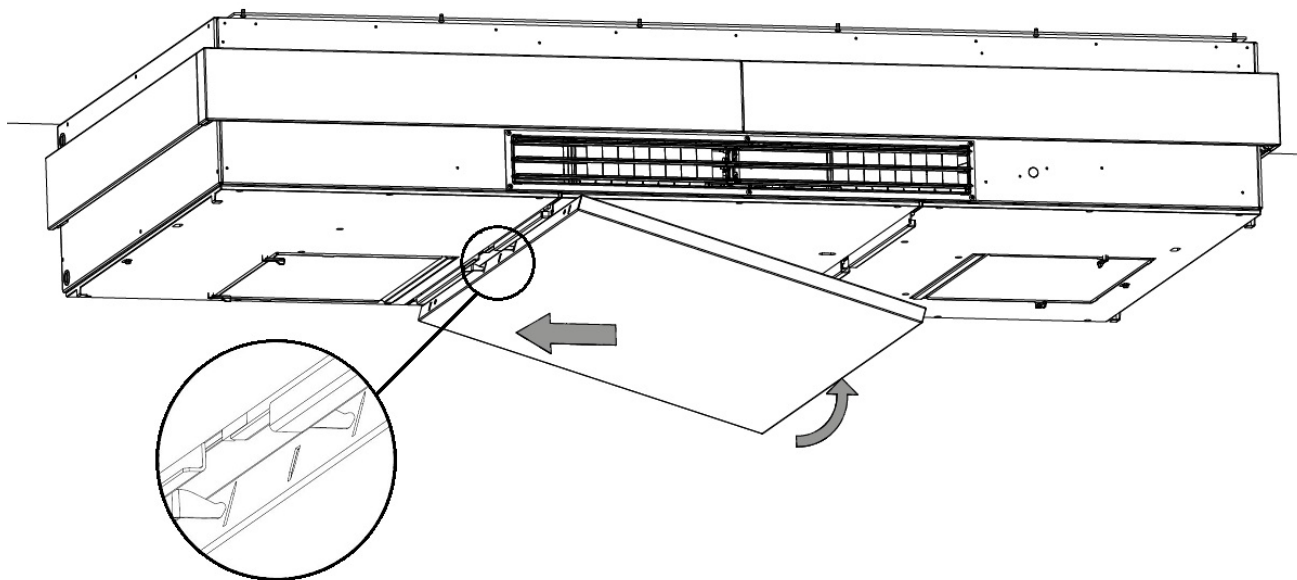

Figure 51: Lift the middle service cover up and onto the hinges
1. Lift the middle service cover onto the hinges, see Figure 51 below.